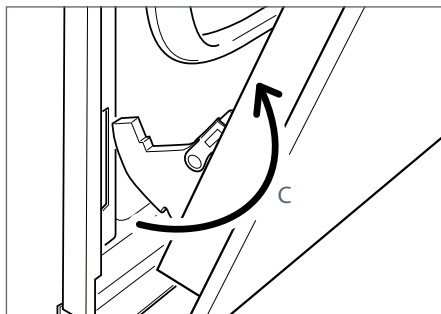

Fig.40e
- 5 Withdraw the hinge hooks from their location following arrow "C" (Fig. 40e).